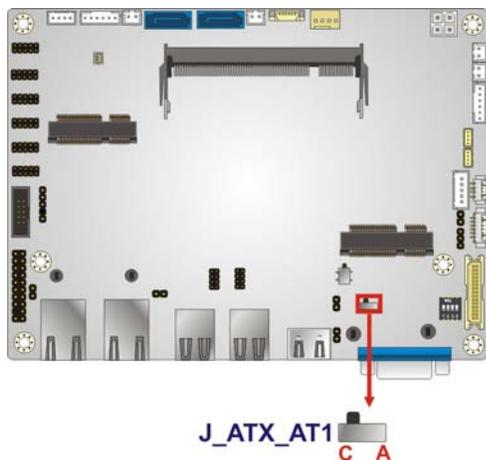

Figure 4-2: AT/ATX Mode Select Switch Location
- CN Location: See **Figure 4-2**
The location of the AT/ATX mode select switch is shown in **Figure 4-2** below.